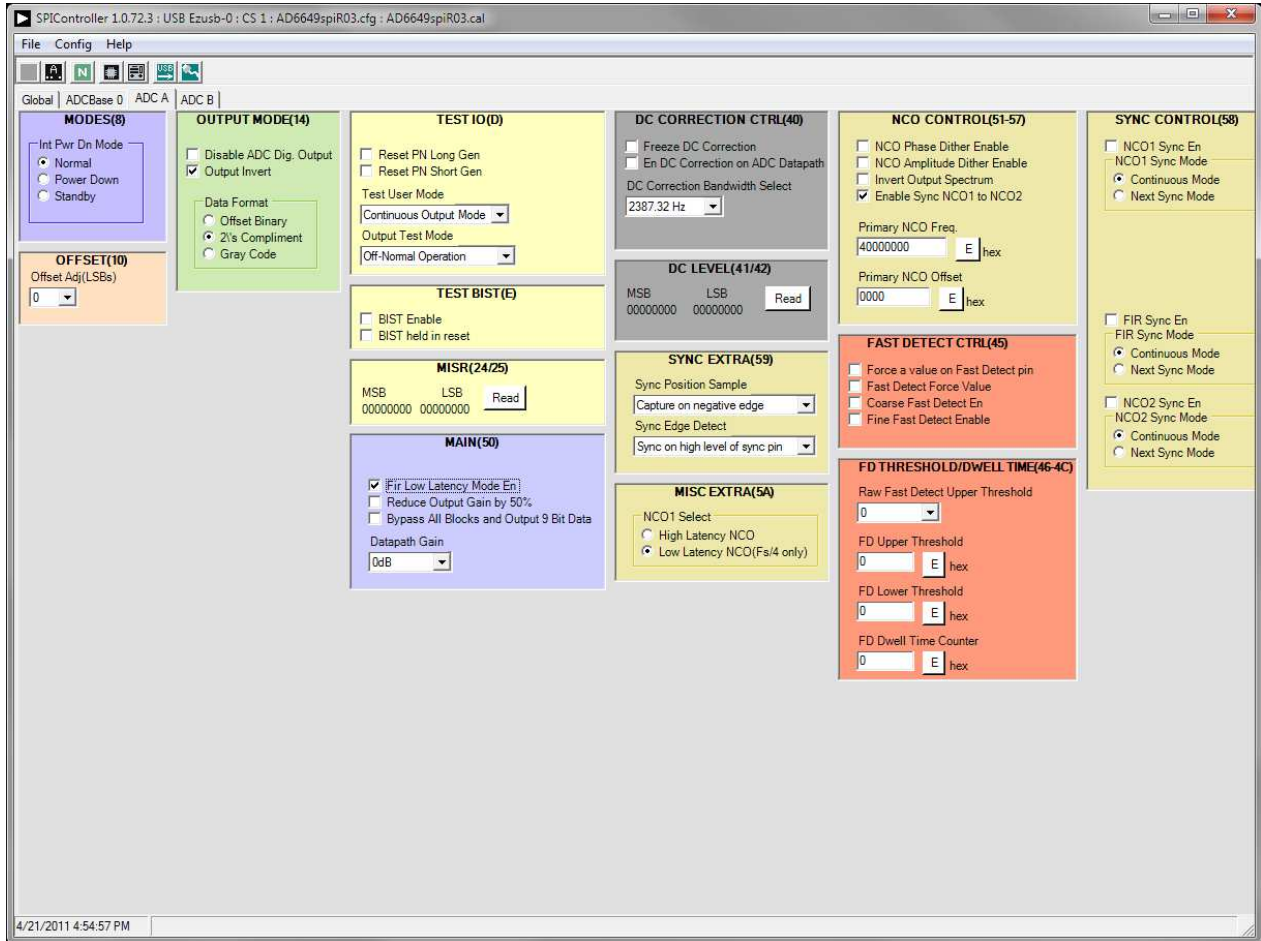

Figure 12. SPI Controller, AD6649 ADC A Tab—95 MHz FIR Filter and Fixed-Frequency NCO Mode
- If using the AD6649, the device can be configured into two different modes. The default mode utilizes a 95 MHz FIR filter and fixed-frequency NCO. The SPI controller settings for this mode are shown in Figure 12. Under the **MAIN(50)** section, the **Fir Low Latency Mode En** checkbox must be selected and the **Low Latency NCO (Fs/4 Only)** option